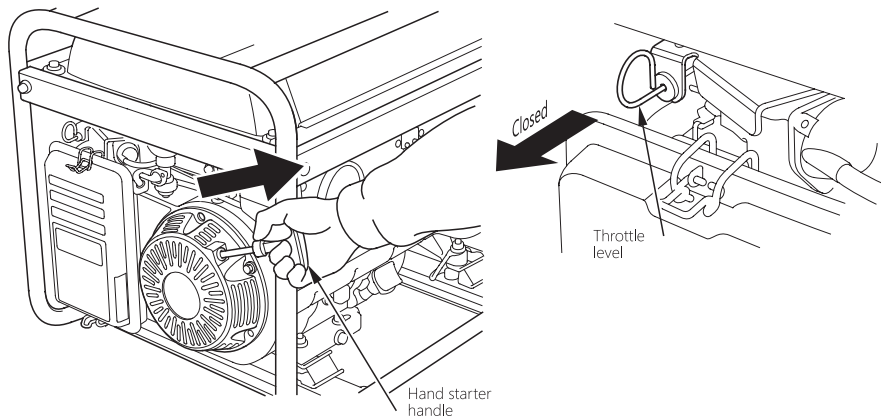

Fig. 6. Engine starting
- Turn the generator's switch to the position "ON" (Fig. 1). Pull the throttle lever to the position "ON" (Fig. 6).